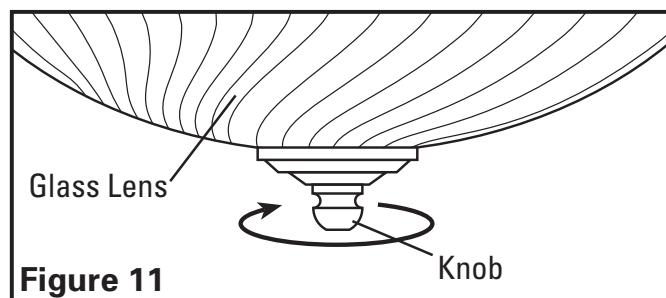
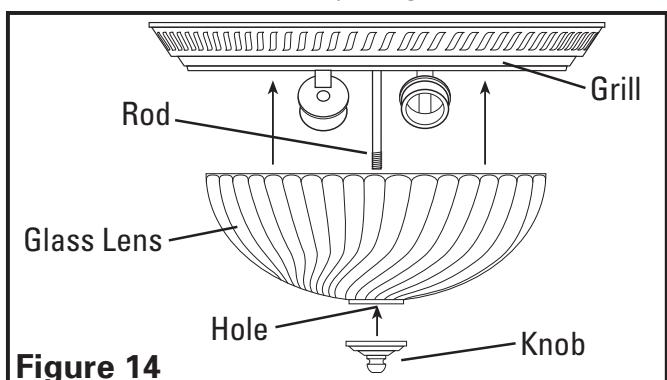

Figure 11
Figure 14
- Remove glass light lens from grill by unscrewing knob at the top of lens (**Figure 11**).
- Reinstall the glass lens in place by sliding the hole in the lens onto the rod from the grill and securing in place with the lens knob removed in **step 3 (Figure 14)**.
3. **Changing the Light Bulb:** Disconnect power to the unit. Remove glass light lens from grill by unscrewing knob at the top of lens (**Figure 11**). Replace light bulb(s) with 60 watt maximum, type A19 medium base incandescent bulb(s). Reinstall the glass lens in place by sliding the hole in the lens onto the rod from the grill and securing in place with the lens knob (**Figure 14**).